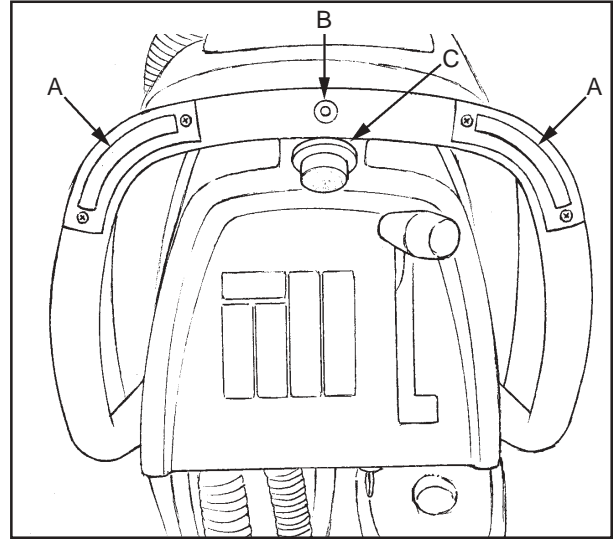

Figure 28
- When either the left or right forward/reverse switches (figure 28, item A) are pushed in, the machine will go forward ("L" models only).
- Control the speed of traverse by using the traverse speed control knob ("L" models only) (figure 28, Item C).
- To reverse the machine, push in the white reverse switch (figure 28 item B) and either the right or left forward/reverse switch (figure 28 item A) at the same time ("L" models only).